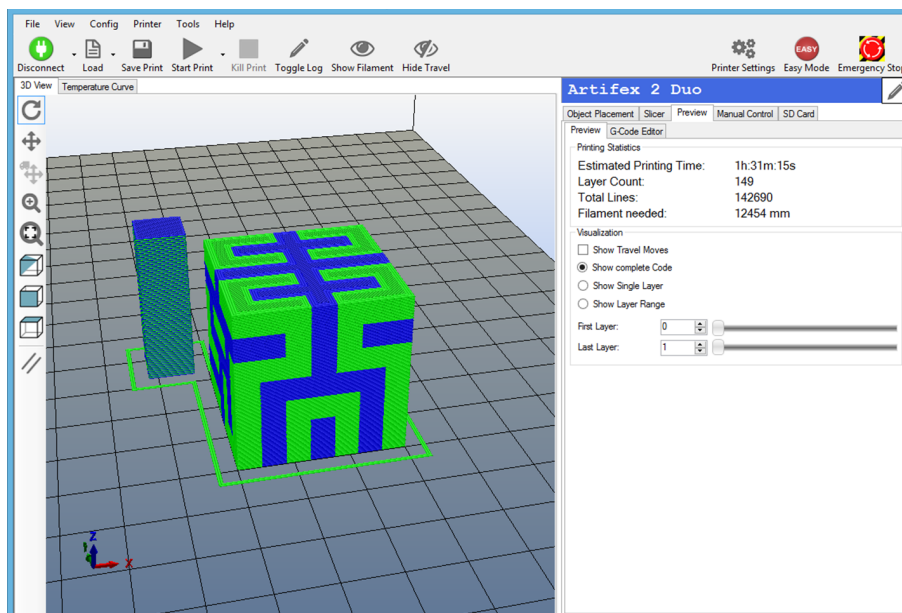

Figure 6.21: Previewing the generated G-code of Hilbert Cube
- The preview of generated G-code is shown in Figure 6.21. After printed out, the HIPS support structure can be dissolved in a Limonene bath.